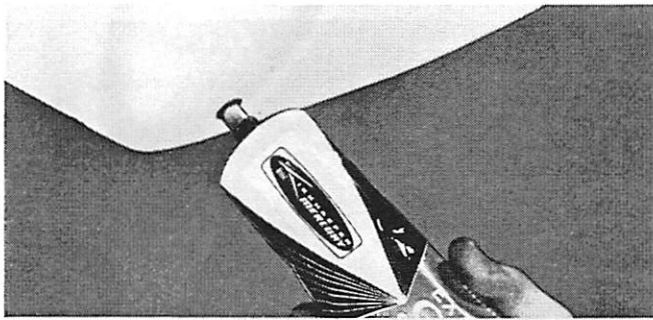

Figure 16. Gear Case Lubrication
4. Inject EXTRA-DUTY Lubricant into gear case (Figure 16) until excess lubricant starts to flow out of air vent screw hole.